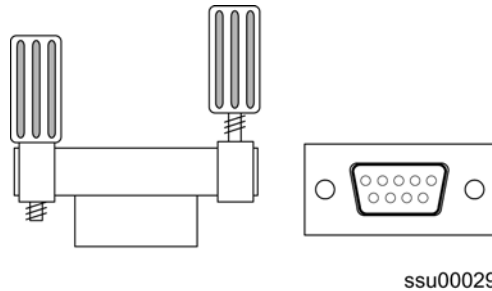

Figure 2-11. SSU Backup Clock Terminator (J9) Side and Front View
2. Install an SDU Backup Clock terminator (551021-0040, shown in Figure 2-11) on connector J9.